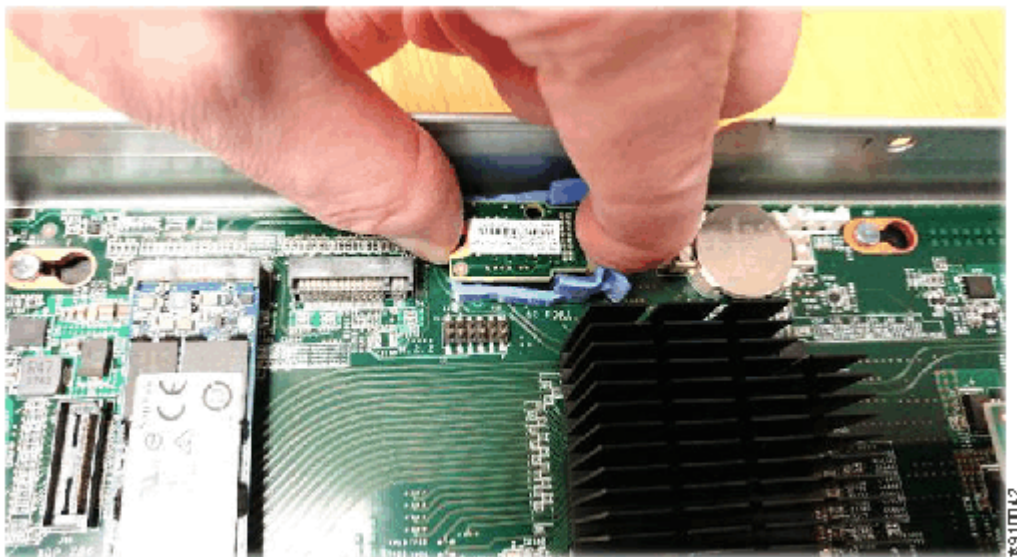

Figure 109. Removing the TPM
7. Insert your finger tip between the latches and hold the TPM between your thumb and finger, as shown in Figure 109 on page 147.